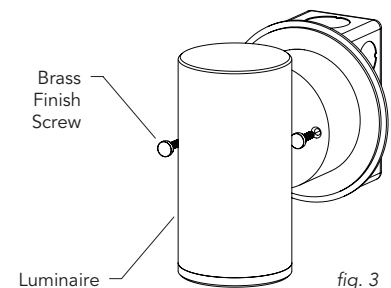

fig. 3
7. Install the luminaire to adjustable mounting bracket assembly using brass ball screws (provided) (as shown in Fig. 3).